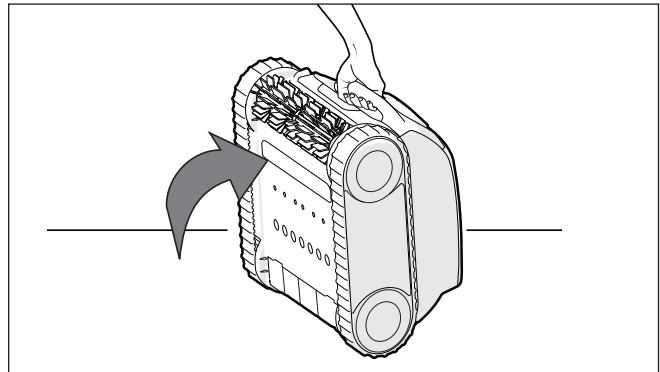

Figure 26. Cleaner in Upright Position
- Stand the cleaner on its end in a vertical position (Figure 26).